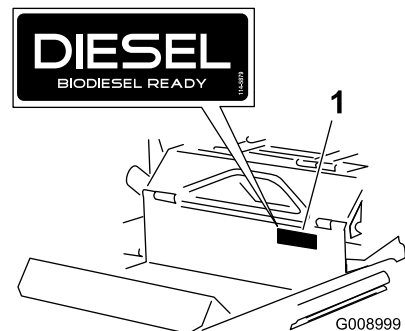

Figure 12
- Clean the existing front decal and the area around it and let it dry (Figure 12).
- Install the new diesel decal over the existing one. See Figure 12.